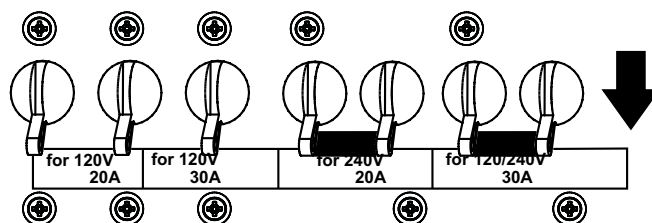

Figure 33. GFCI/AUX. Circuit Breakers (OFF)
2. Place **GFCI** and **AUX.** circuit breakers (Figure 33) in the **OFF** position.